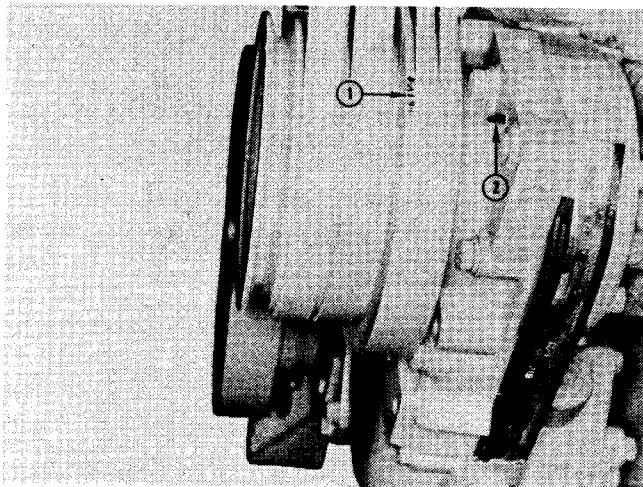

Fig. 2-60, (N114220). Valve set timing marks — H-NH Series
3. Bar engine in direction of rotation until a valve set mark (1, Fig. 2-60 and 2-61) aligns with the boss (2) on the gear case cover. Example: A or 1-6 "VS". This location is marked with a notch in the drive pulley.